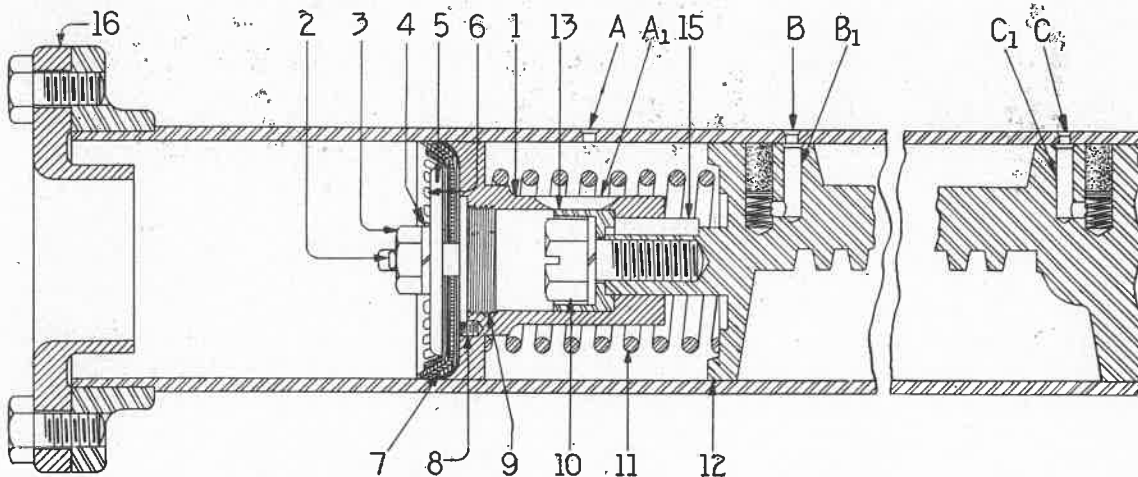

Fig. 29. Section Through Main Cylinder Showing Piston for Types PC-10, PC-12 and PC-101 Controllers
In order to take the mechanism apart, refer to Fig. 29.
- (k) The PC-10, 11, 12 and 101 controllers are provided with three oil holes, A, B and C, as shown in section through main engine cylinder in Fig. 29. At every inspection a small amount of thin non-freezing oil,